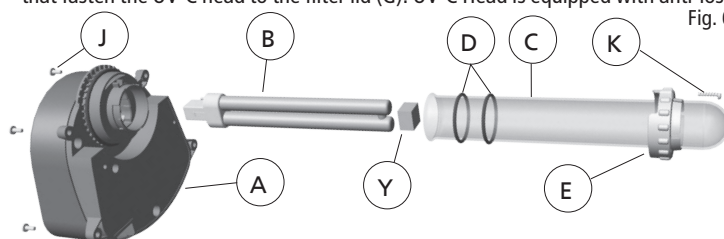

Fig. 6
4. Remove the UV-C head (A) (Fig. 6) from the filter by unscrewing the 4 screws (J) that fasten the UV-C head to the filter lid (G). UV-C Head is equipped with anti-loss